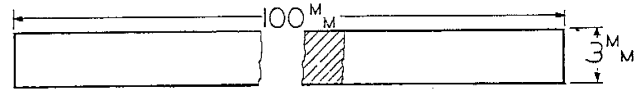
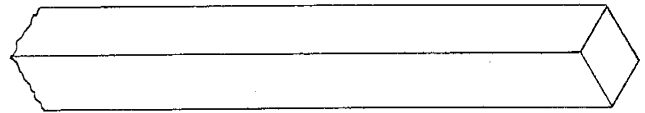
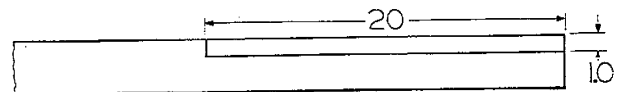
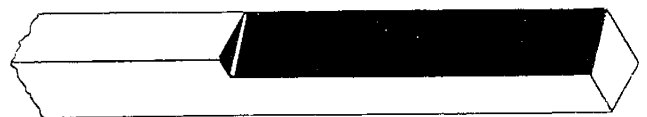

Fig. 27-8
Fig. 27-8P
Fig. 27-9
Fig. 27-9P
In order to obtain practice in filing, polishing, hardening and tempering, we will make two jewellery tools. They are made from 3 mm square tool steel or drill rod approximately 100 mm in length, figure 27-8. Each step is accompanied by two illustrations. One gives the dimensions in millimeters or fraction thereof and the other is a projection illustrating each cut as it is made. For example: figure 27-8 illustrates a piece of square steel 100 mm long and 3 mm square. Figure 27-8P is a projection of the end to be worked upon. Figure 27-9 illustrates the same piece of steel with a section 20 mm long and 1 mm down from the front edge to be filed away. The projection, figure 27-9P, illustrates the piece of steel after this has been done. Follow each step carefully and work slowly.
1. Clamp the rod in vise allowing approximately 22 mm to extend beyond the jaws of the vise, figure 27-8 and 27-8P.
2. Scratch a line with the edge of the file approximately 20 mm from the end, figure 27-9.
3. Holding the file at an angle of about 18 degrees, file a bevel as in figure 27-9 and 27-9P. Figure 27-9P shows this section after it has been filed.